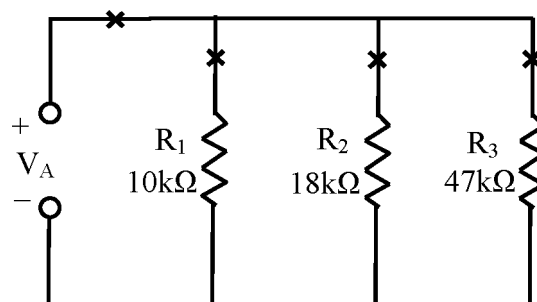

Figure 16-1
1. Connect the circuit as shown in Figure 16-1 and set the applied voltage to 10 volts.
2. Find the total circuit current and the current flowing through each parallel branch by breaking the circuit at the appropriate "X" in Figure 16-1 and measuring with an ammeter.